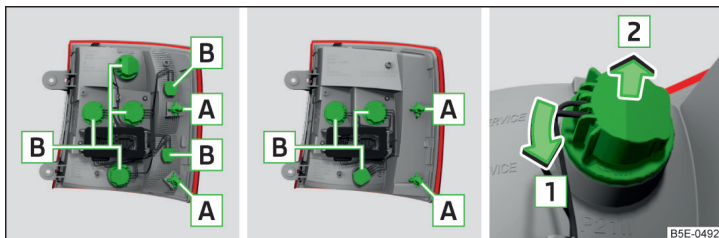

Fig. 246 Outer part of the light: Basic light/light with LED diodes
- › Turn the socket with the bulb **B** in the direction of **1** » Fig. 246.